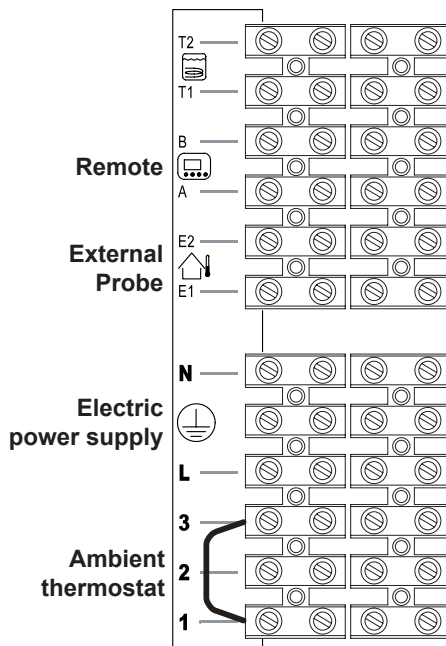

Fig. 6.27
To remotely connect utilise the terminals indicated in Fig. 6.27.
Use the clamps indicated in Fig. 6.27 to connect the external probe.
Use the clamps indicated in Fig. 6.27 to connect the remote.
**Do not remove the electric jumper connected on the ambient thermostat terminal block between "1 and 3" Fig. 6.27.**